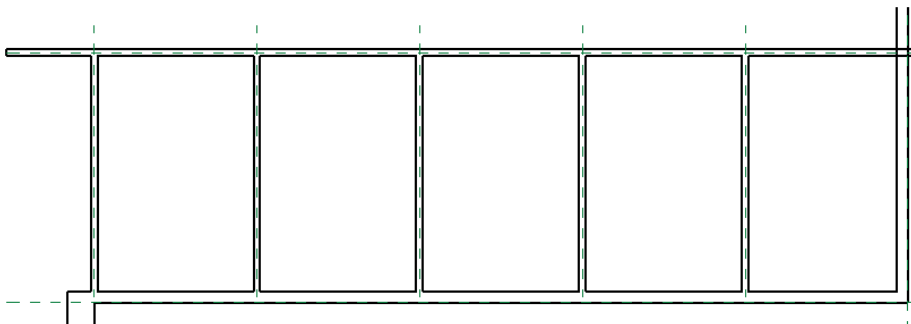

FIGURE 1.13 Results of Trim/Extend Multiple Elements
3. Choose the Trim/Extend Multiple Elements tool from the Modify tab of the ribbon. Select the long horizontal interior wall first. Then move your mouse inside the room on the lower-right side of the plan. Hold your mouse button down and drag a crossing selection window up and to the left to include each of the smaller segments of wall. Release the mouse, and Revit should trim off the walls neatly, as in Figure 1.13.